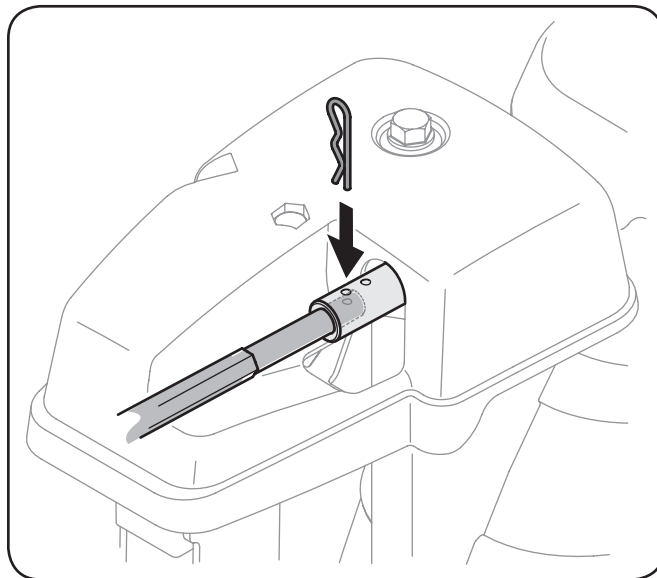

Figure 6-7
3. Reinsert the cotter pin through this hole and the chute control rod. See Figure 6-7.
2. Pull out the chute control rod until the hole in it lines up with the second hole in the chute rotation assembly. See Figure 6-7.